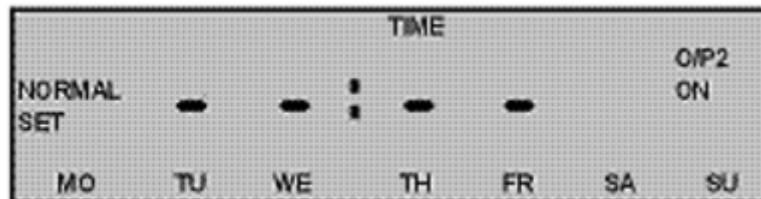

Figure 4 – Output 2 setup
2.2 Output 1 (O/P1) is not used for this application so to move to the Output 2 setup press the MODE button repeatedly until (O/P2) is displayed see (Figure 4).